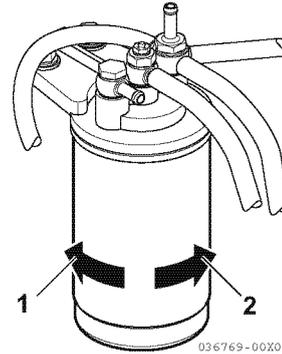

Figure 5-11
3. Remove the fuel filter with a filter wrench, turning it to the left (1, **Figure 5-11**). When removing the fuel filter, carefully hold it to prevent the fuel from spilling. Wipe up all spilled fuel.
5. Install the new fuel filter. Turn to the right (2, **Figure 5-11**) and hand-tighten it only until it comes in contact with the mounting surface. Tighten to 20 - 24 N·m (2.0 - 2.4 kgf·m) or one additional turn using the filter wrench.